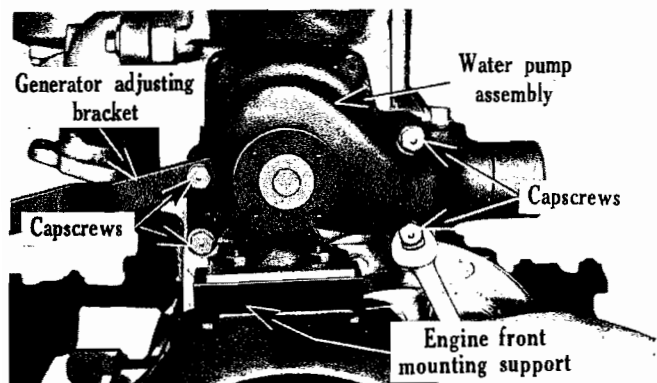

Fig. 32
2. Remove four mounting capscrews from water pump (Fig. 32). Remove water pump from front end of cylinder head.